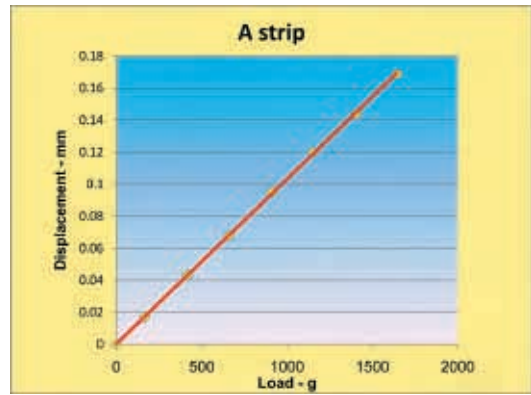

Fig.3 Linear relationship between load and displacement for Almen A strip.
Equation (6) indicates that there should be a direct correlation between deflection, **h**, and applied load, **P**. The modified Almen gage was validated by applying a series of loads to an A strip. Fig.3 shows the excellent linearity between deflection and applied load.
Anisotropy of elastic modulus will directly affect bending resistance. A limited test was therefore carried out to determine the elastic modulus of single, randomly-selected, N, A and C strip specimens. The slope of a best-fitting h/p straight line through the origin was used together with equation (6) and careful measurements of strip widths and thicknesses. Corresponding plots of deflection against load are given in figs.3, 5 and 6. Calculated values for the strips were: